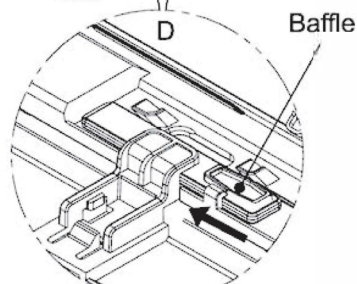

Fig.C.7.5
- 4) In the C position, open the front shell as shown in Fig. C.7.4 . Then in the D position, push the baffles to prevent the front shell from falling as shown in Fig. C.7.5.